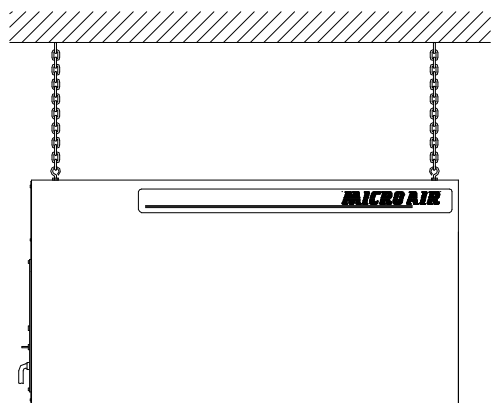

FIGURE 1
3. Once eyebolts are secured, the MX 1800 is ready to be hung in an appropriate location (See **FIGURE 1**).